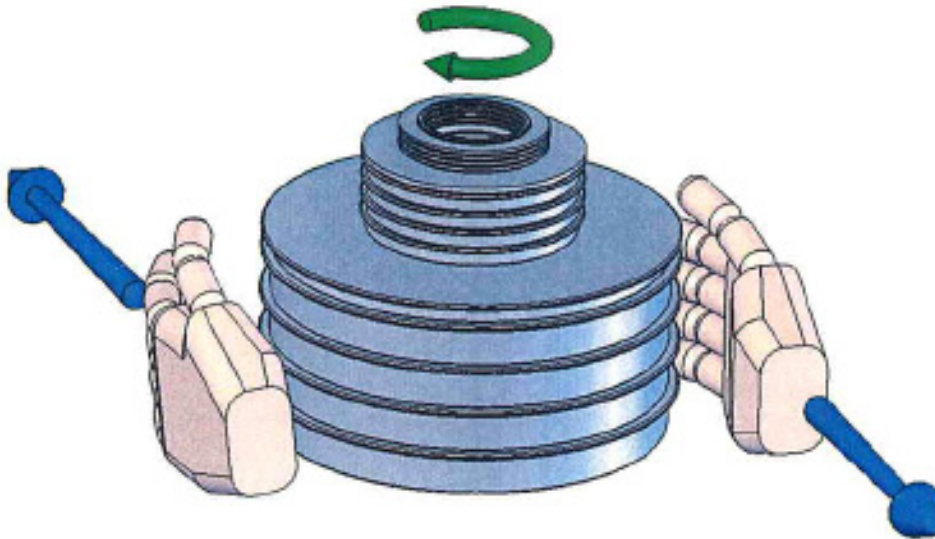

Figure 3-1. Weight Rotation
4. Gently rotate the weight stack clockwise, such that it is turning between approximately 10 and 60 rpm. Avoid side-loads when turning the weights by placing the palms of the hands on either side and “rolling” the stack by pulling in opposite directions, see Figure 3-1. **DO NOT rotate weights when the piston is against the top or bottom limits of travel.**